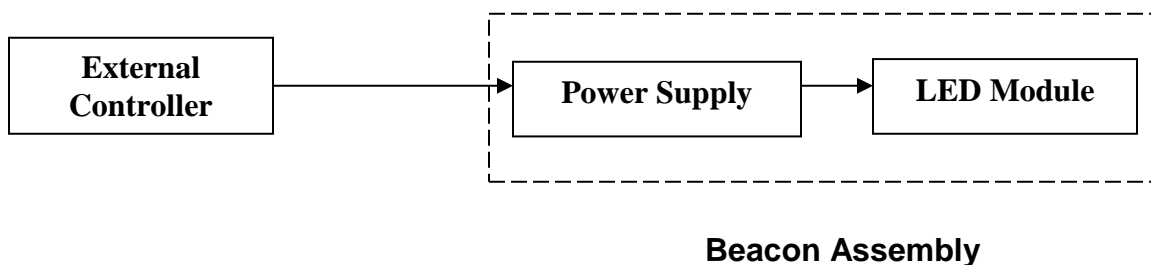

Figure 3 - System Block Diagram
- Figure 3: System Block Diagram